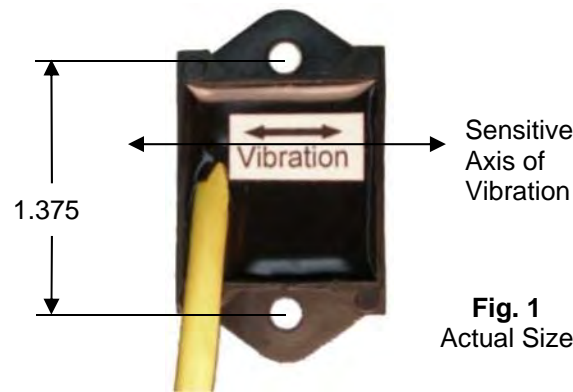

Fig. 1
A. ORIENT THE SENSOR so that its sensitive axis is in the same direction as the vibration of the feeder. The arrow in figure 1 shows the sensor's sensitive axis. Align the sensitive axis of the sensor in the same
6) Remove the vibration sensor from its protective packaging. Remove the liner from the adhesive backing. Avoid touching the tape. Align the sensor as shown in figures 1 and 2. Apply the vibration sensor to the prepared area of the feeder. Press the sensor very firmly onto the feeder surface for at least 10 seconds.